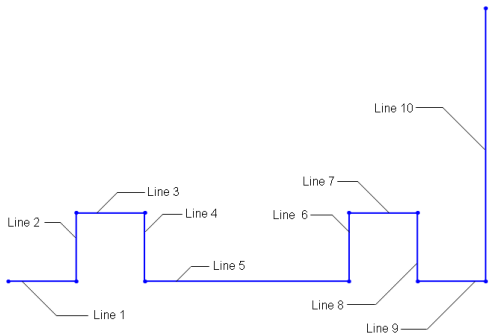

Figure 2-70 Partial outer loop of the sketch
- c. Draw the outer loop of the sketch, refer to Figures 2-70 and 2-71.
4. Click when the length of the line above the line cursor is displayed as 10; a horizontal line is created. Refer to Line 1 in Figure 2-70.
6. Click when the length of the line above the line cursor is displayed as 10; a vertical line is created. Refer to Line 2 in Figure 2-70.
7. Move the line cursor horizontally toward the right. Click when the length of the line above the line cursor is displayed as 10; the next horizontal line of 10 mm length is drawn. Refer to Line 3 in Figure 2-70.
8. Move the line cursor vertically downward and click when the length of the line on the line cursor is displayed as 10. Refer to Line 4 in Figure 2-70.
9. Move the line cursor horizontally toward the right and click when the length of the line on the line cursor is displayed as 30. Refer to Line 5 in Figure 2-70.
10. Move the line cursor vertically upward and click when the length of the line on the line cursor is displayed as 10. Refer to Line 6 in Figure 2-70.
11. Move the line cursor horizontally toward the right and click when the length of the line on the line cursor is displayed as 10. Refer to Line 7 in Figure 2-70.
12. Move the line cursor vertically downward and click when the length of the line on the line cursor is displayed as 10. Refer to Line 8 in Figure 2-70.
13. Move the line cursor horizontally toward the right and click when the length of the line on the line cursor is displayed as 10. Refer to Line 9 in Figure 2-70.
14. Move the line cursor vertically upward and click when the length of the line on the line cursor is displayed as 40. Refer to Line 10 in Figure 2-70.